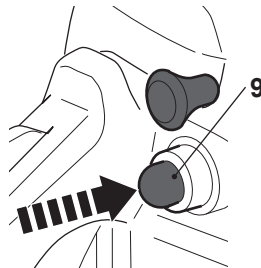

Fig. 23
Press the primer (9) when starting the product with a cold engine (Fig. 23). Do not press the primer for warm starts.